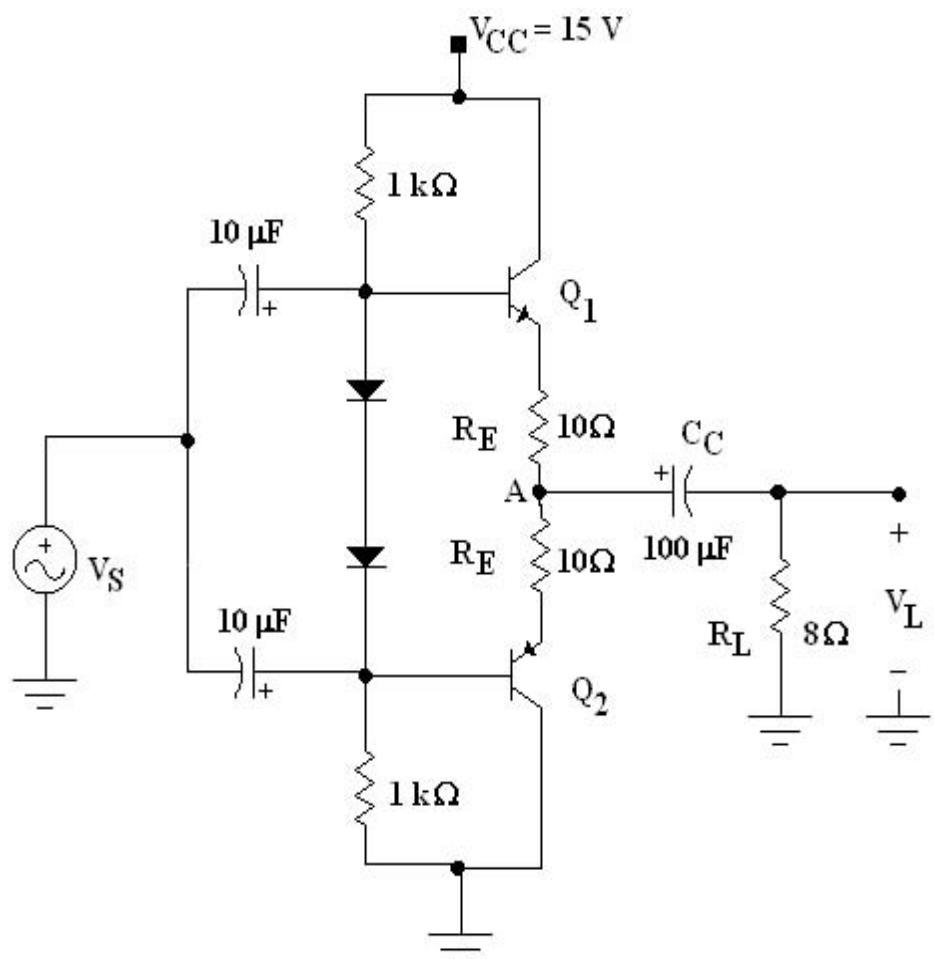

Figure 2
Figure 2 shows how a push-pull amplifier can be constructed without using a driver or an output transformer. Note the complementary (NPN and PNP) transistors, Q₁ and Q₂. When V_s is positive, NPN transistor Q₁ conducts and PNP transistor Q₂ is cutoff. When V_s is negative, Q₁ is cutoff and Q₂ conducts. For optimum operation, all components must be closely matched, in which case the dc voltage at point A is V_{cc}/2. Coupling capacitor C_c prevents the dc voltage from appearing in the load and eliminates the need for an output transformer. The coupling capacitor affects the low-frequency response of the amplifier. The lower cutoff frequency due to C_c is:
1. To demonstrate the capacitor-coupled, complementary push-pull class-AB power amplifier, connect the circuit in Figure 2.
1. Using the sketch obtained in procedure step 2, calculate the average load power for the class-AB complementary, push-pull amplifier of Figure 2. What could cause the positive and negative amplitudes of the output waveform to be slightly different?
2. Calculate the theoretical lower cutoff frequency, $f_1(C_C)$, due to the output coupling capacitor in the circuit of Figure 2. Compare this theoretical frequency to the frequency measured in procedure step 3. If the power amplifier in Figure 2 had to be operated over the entire audio frequency range (20 Hz to 20 kHz), what new value would the output coupling capacitor have to be?